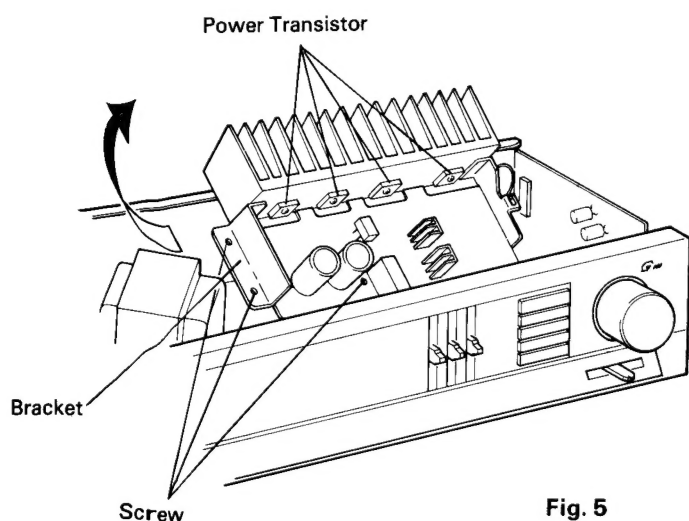

Fig. 5
3. Pull out the main P. C. Board in the direction of the arrow shown in Fig. 5, taking care that the board does not contact P. C. Board.